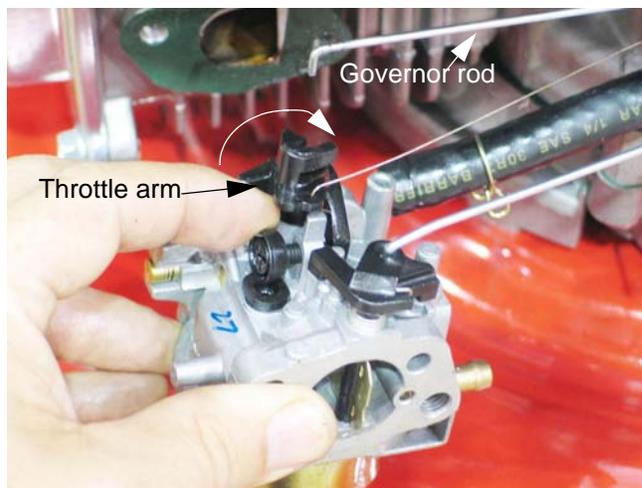

Figure 3.14
- 2d. Rotate the throttle arm until it meets the idle speed screw, then pivot the carburetor slightly to disengage the 90 degree bend at the end of the governor rod. See Figure 3.14.